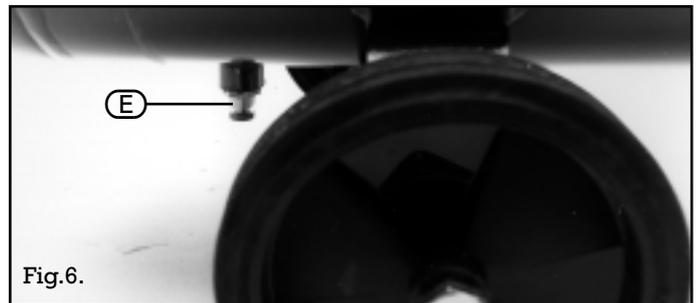

Fig.6.
- B. Drain the condensate from the receiver. The drain plug (E) Fig. 6. is situated on the underside of the receiver tank.